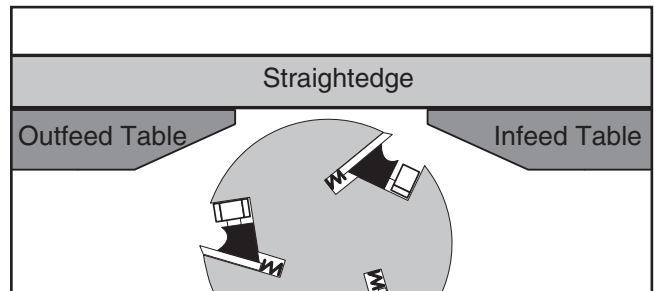

Figure 55. Infeed and outfeed tables set evenly.
2. Place the straightedge halfway across the infeed table and halfway over the outfeed table, and adjust the infeed table even with the outfeed table, as shown in **Figure 55**.